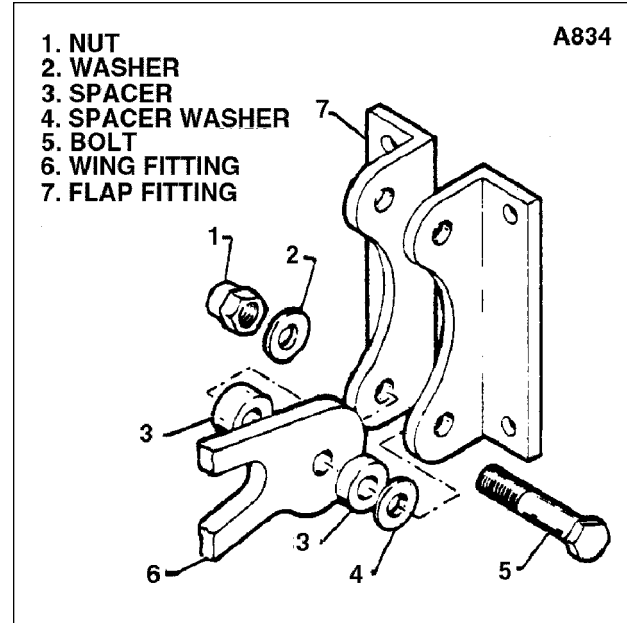

Figure 4-4. Aileron Bearing Installation
- A. Position the aileron, lubricate (Refer to Lubrication Chart, Section II) and install the inboard hinge bolt. (Refer to figure 4-4.) Install the outboard bolt. Place the spacer washers to allow for best alignment of hinges. Move the aileron through its full travel to ascertain that there is no binding.